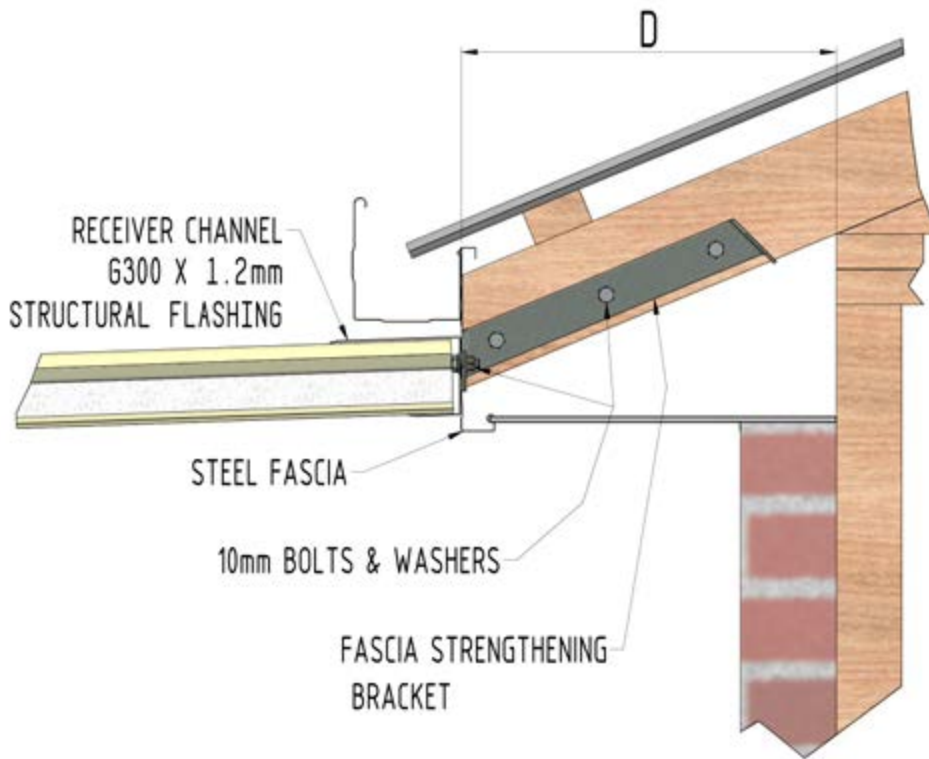

Figure A31
**Roofing to Metal Fascia (see Figure A31)**